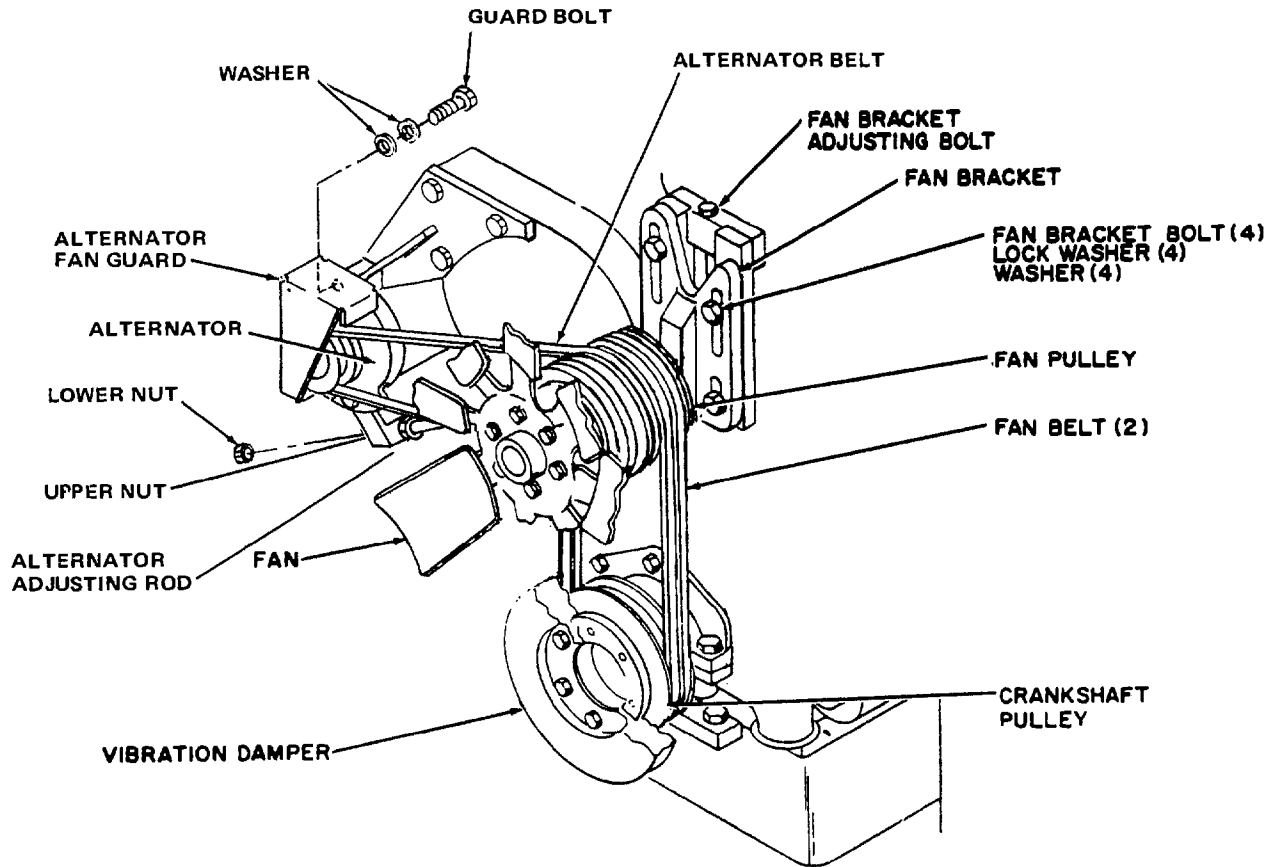

Figure 4-15. Alternator and Fan Belts, Removal and Installation
a. Removal. To remove alternator and fan belts, refer to figure 4-15 and proceed as follows:
(1) Remove fan guards, refer to paragraph 4-106.
(2) Remove alternator guard bolts and washers (figure 4-15). Loosen alternator bolt and pivot alternator fan guard away from alternator.
(3) Loosen adjusting rod bolt. Back off lower adjusting rod nut until alternator belt can be removed from alternator.
(4) Loosen fan bracket bolts. Rotate fan bracket adjusting bolt and lower fan bracket until it bottoms and then remove adjusting bolt.
(5) Open battery compartment access door, remove two quick release pins, and pull out batteries and rollout tray.
- (4) Replace defective parts.
c. Installation. To install alternator and belts, refer to figure 4-15, and proceed as follows:
- (1) Position fan belts on crankshaft pulley.